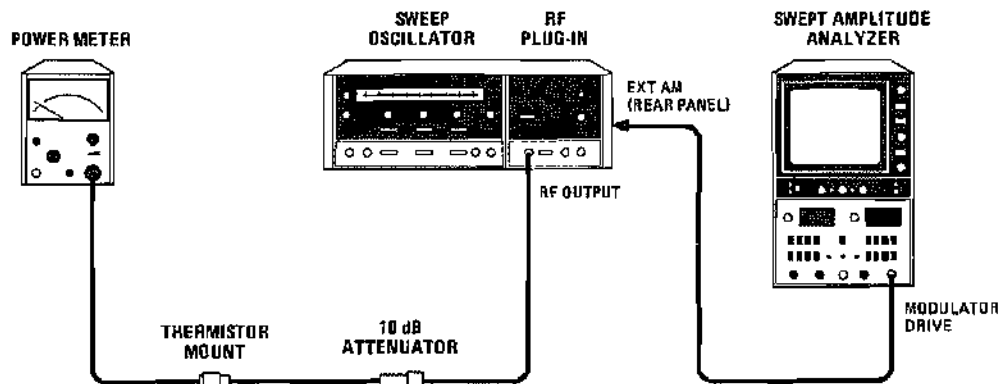

Figure 5-7. 8755B Symmetry Adjustment Test Setup (Option 001)
- a. Connect equipment as shown in Figure 5-7 except do not connect 8755B MODULATOR DRIVE to 8620C EXT AM input.